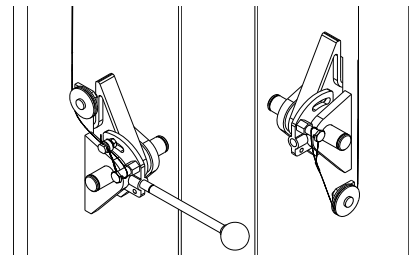

Fig 7 – Lock Assembly
- 26) Attach Mechanical Lock Release Cable Assembly to each lock pawl. **See Fig 7.**